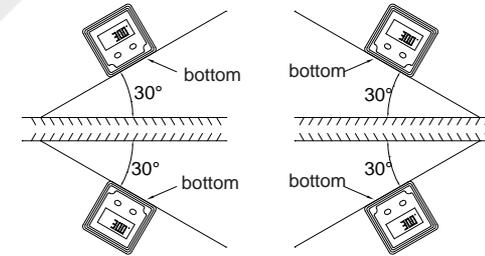

fig.4
7. The instrument can use in 4-orientation, the display flips over when the bottom faces up (Fig.4).